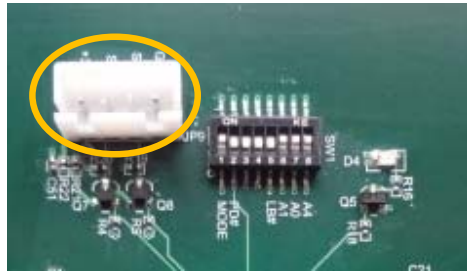

Figure5. SCL and SDA pin Header Location
PI2EQX6874ZFE provides I2C configuration control depending on the state of the MODE pin input (red circle in Figure5).
Figure5 shows the switch and location of these configuration control pins on the EVB.
- For I2C inputs, SCL and SDA pin are tolerant with **+3.3V power**. Figure5 is SCL and SDA pins location on EVB.